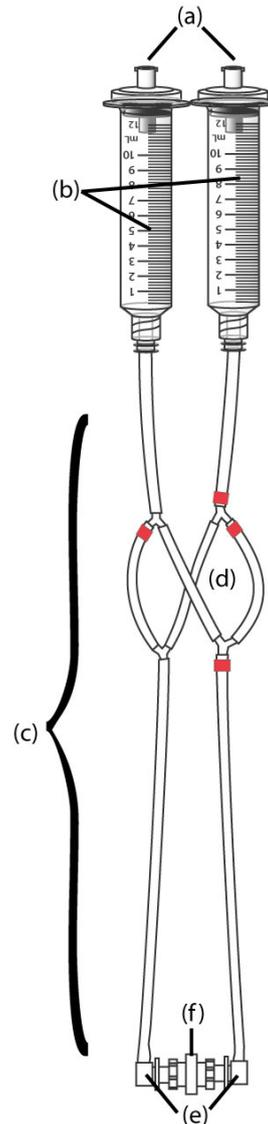

Figure 8: Description of the Perfusion Set parts.
3.4.0.1 Perfusion Set Parts: (Figure 8)